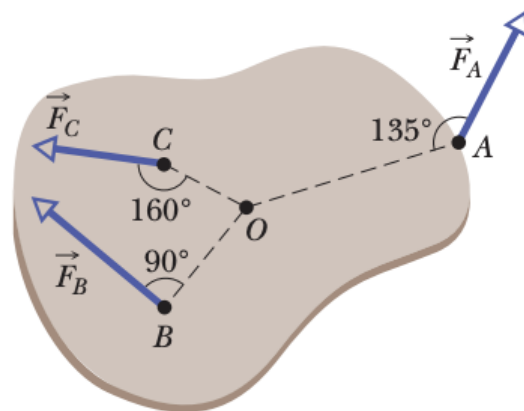

Figure 2: Torques on object
3. The body in Fig. 2 is pivoted at O . Three forces act on it: $F_A = 10$ N at point A , 8.0 m from O ; $F_B = 16$ N at B , 4.0 m from O ; and $F_C = 19$ N at C , 3.0 m from O . What is the net torque about O ? (Halliday & Resnick)